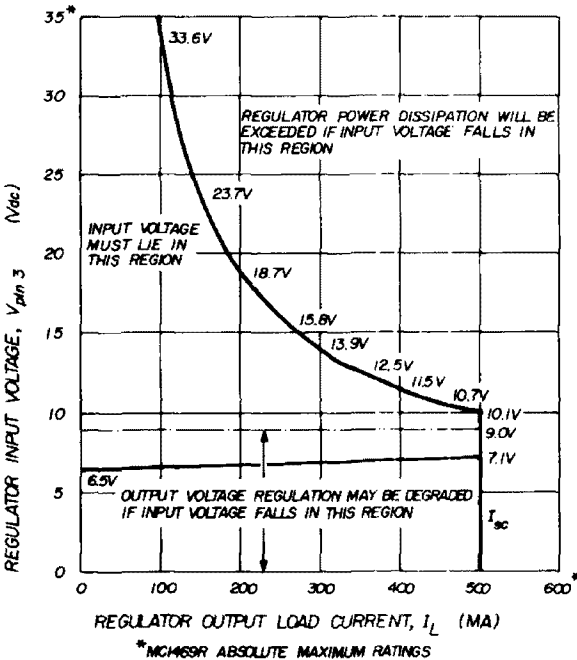

fig. 2. Restrictions on the unregulated input voltage to the 3.5 V dc regulator circuit.
- The data from steps 4 and 6 are plotted in fig. 2. Note that  $V_{pin\ 3} (\text{max})$  is restricted to 35.0 Vdc, and that  $V_{pin\ 3} (\text{min})$  is set equal to 9.0 Vdc. The unregulated input voltage must lie between 9.0 and 10.1 Vdc at  $I_L = 500$  mA, and between 9.0 and 35.0 Vdc when  $I_L = 0$ .